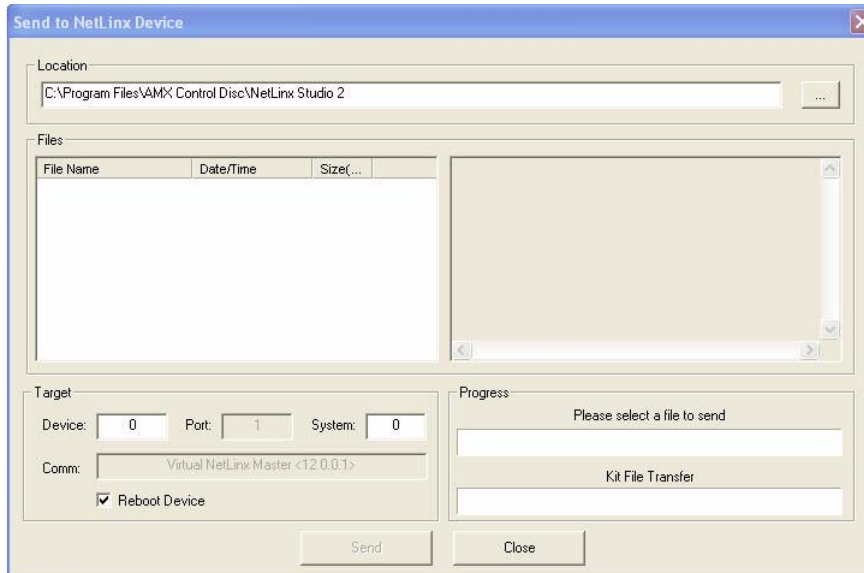

FIG. 102 Send to NetLinx Device dialog window
7. Select **Tools > Firmware Transfers > Send to NetLinx Device** from the main menu to open the *Send to NetLinx Device* dialog (FIG. 102). Verify that the panel's System and Device number values match those values listed within the System folder in the **OnLine Tree** tab of the Workspace window.